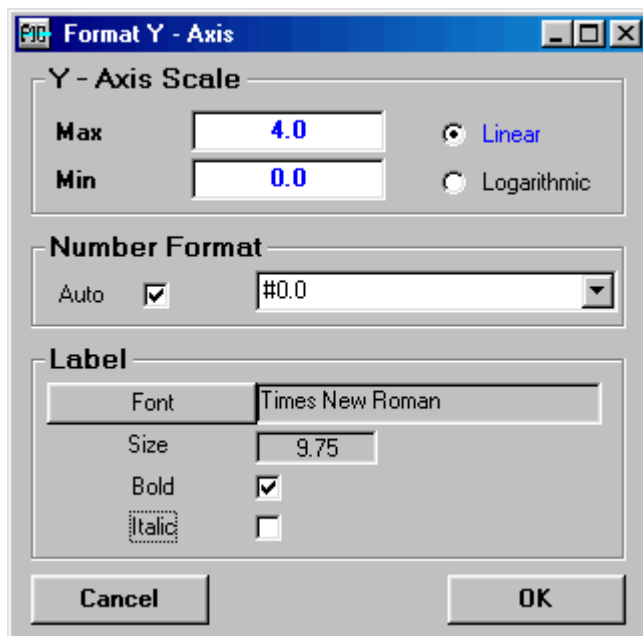

Fig. 12. Changing scales, scale number format and font settings.
1. Double click the x- or y-scale numbers or select **X-Axis** or **Y-Axis** from the **Format** menu to change, for example, the minimum and maximum values of the X- and Y-axis, see Fig. 12. In some cases it is also advantageous to change the y-axis to logarithmic scale in order to display the large variations in amounts or concentrations.